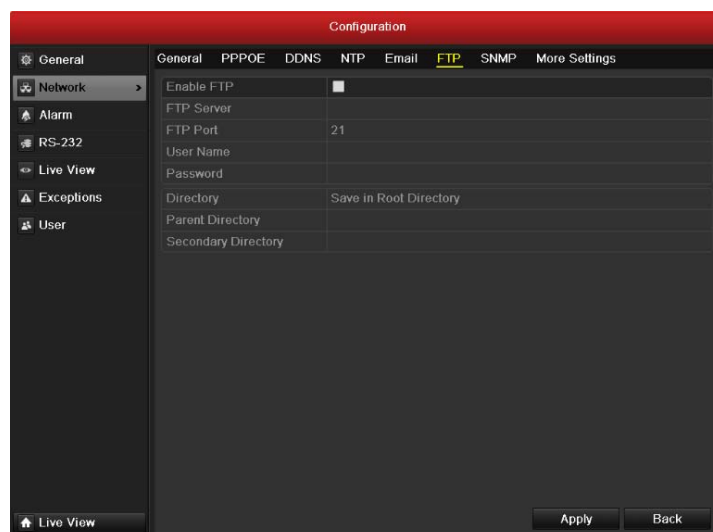

Figure 9.9 FTP Settings Interface
2. Select the **NTP** tab to enter the NTP Settings interface, as shown in Figure 9.9.